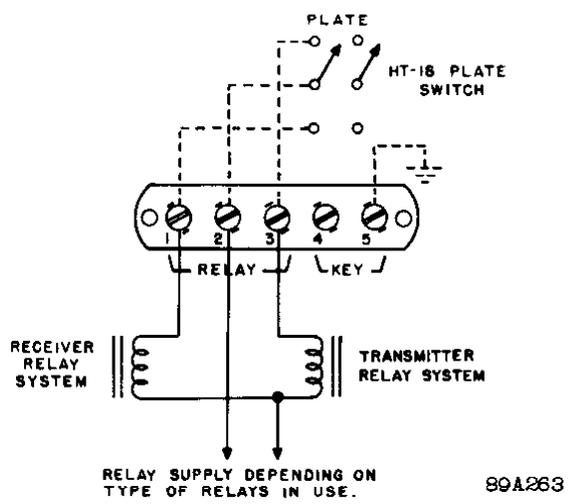

Figure 2. External relay connections
1. **RELAY and KEY TERMINAL STRIP** - For c-w operation, connect a key across terminals 4 and 5 as indicated; for strictly phone operation connect a jumper between terminals 4 and 5. If the transmitter and receiver are relay controlled refer to Fig. 2. for suggestions as to the use of terminals 1, 2, and 3 of this terminal strip. Other uses may be made of the section of the PLATE switch reserved for external switching if relays are not used in the installation.